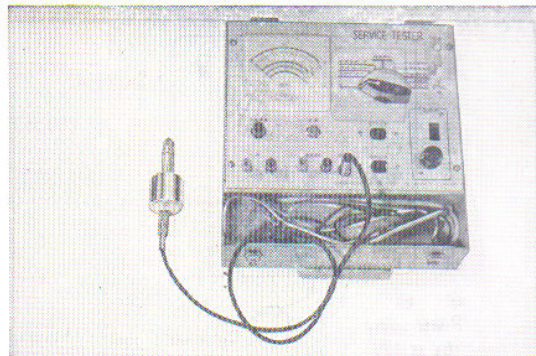

Fig. 5.104 Tachometer preparation
- (2) Connect the tachometer plug to the jack marked "tachometer" on the tester, and read the "6000 rpm" side of the meter green scale. (Fig. 5.104 and 5.105)